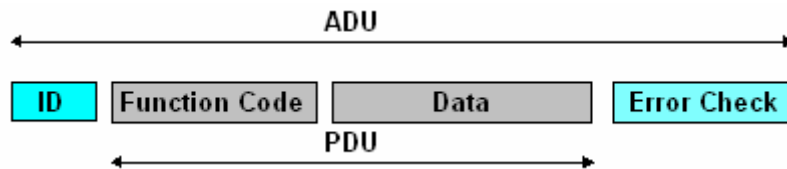

Figure 2: Protocol Frame
As additional information, the Application Data Unit (ADU) includes the participant address (ID) allowing Master and Multi-Slave operation, and a so-called Error Check defined as the check-sum over the characters to be transmitted. The address and the error check are added before and behind the character string as shown in Figure 2 and are transmitted together with it.